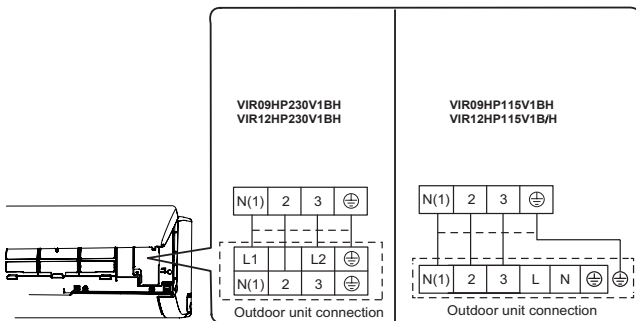

Fig.13
(3) Remove the wire clip; connect the power connection wire to the wiring terminal; tighten the screw and then fix the power connection wire with wire clip.(As show in Fig.13)